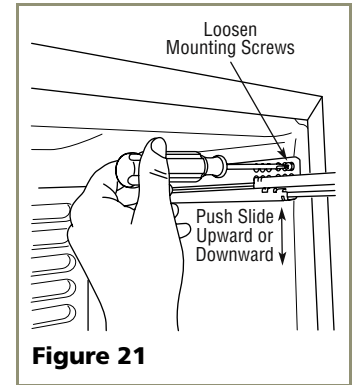

Figure 21
3. Retighten the screws. See **Figure 21**.